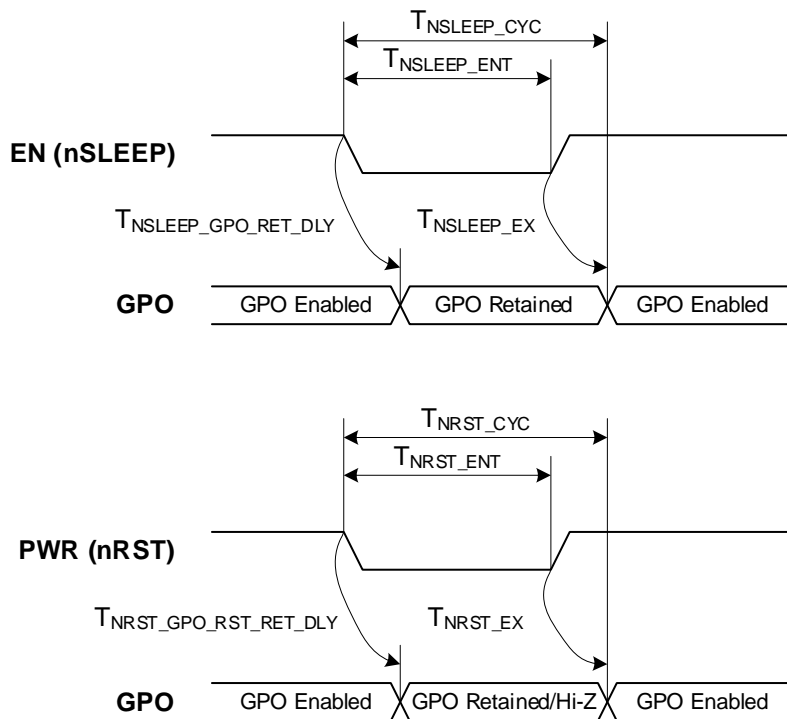

Figure 35. Device On/Off State Cycle Timing Diagram (PWR/EN Pin)
Figure 35 depicts general behaviour during nRST (PWR) and nSLEEP (EN) assertion.